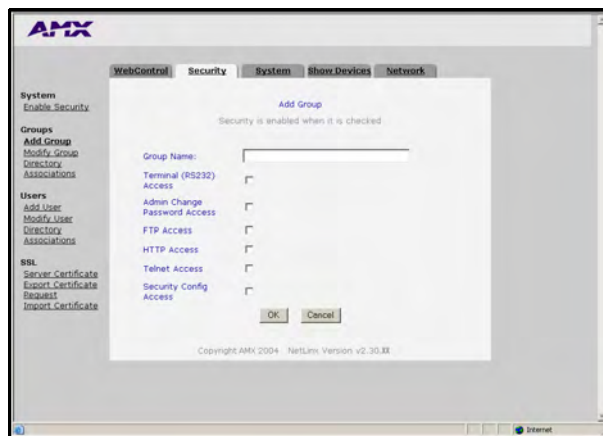

FIG. 49 Security tab - showing the Add Group fields
- Click the **Add Group** link to populate the Security tab with the fields necessary for configuring a new group and assigning its associated access rights (FIG. 49).